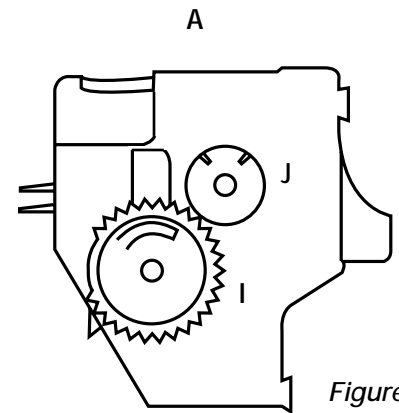

Figure 5.
15. Reposition the drum counter reset gear (I) by removing the small coupler gear (J), then lifting and rotating the drum counter reset gear clockwise until the detection arm is in the 12:00 position (see figure 5). Reinstall the coupler gear. **NOTE:** The drum counter reset gear and small coupler gear are not included in original drum cartridges provided with these machines. The drum counter can also be reset by performing simulation 24-07.
16. Reinstall the drum cover (A)—using caution not to disrupt the gears within—by gently pushing the unit down into it until all four of its plastic hook clips snap in place.